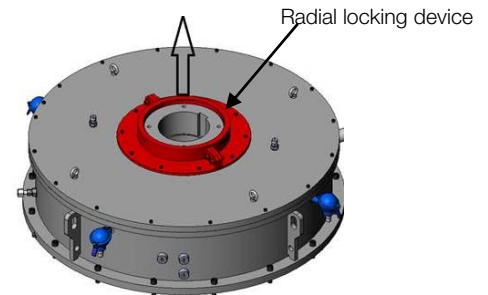

Figure 4.2: Radial locking device
3. Remove the locking device as show in Figure 4.2 ;